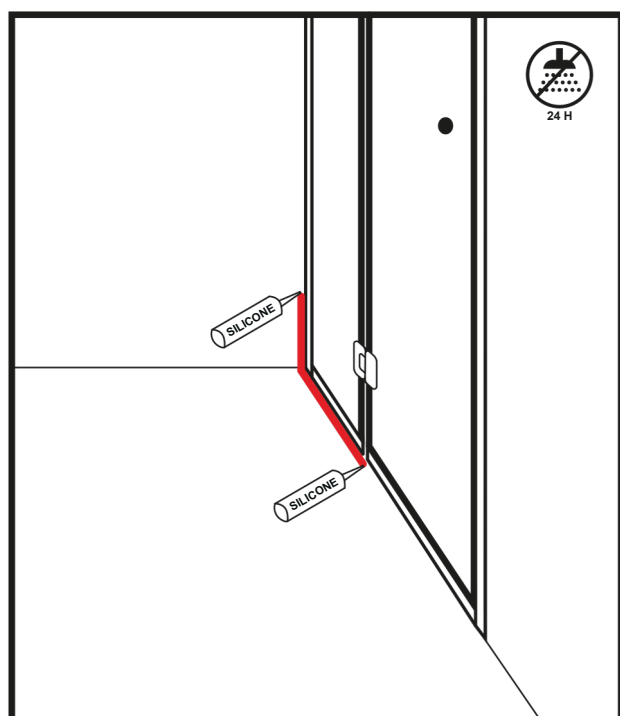
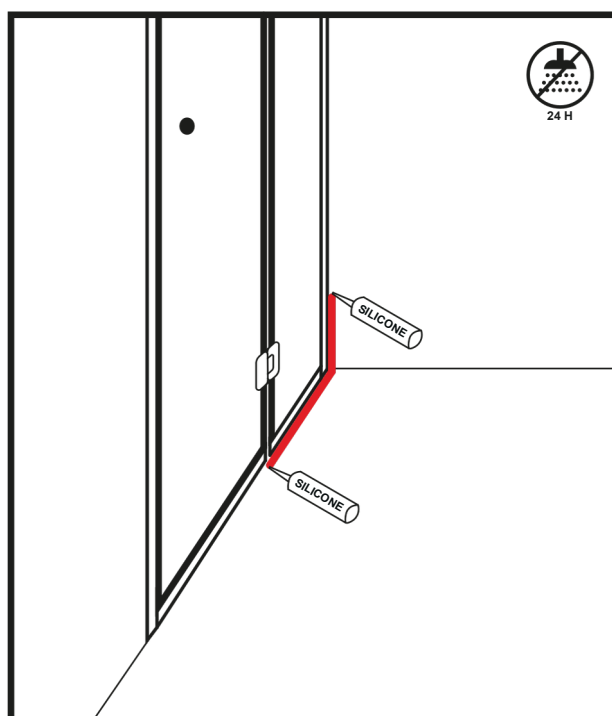

Figure 14
Figure 15
39. Apply an even bead of silicone to the edges of the U-profiles on both the inside (Figure 14) and outside (Figure 15) of the shower enclosure.